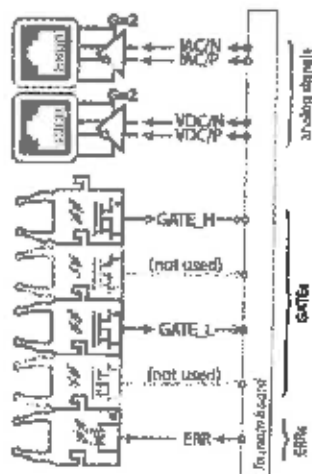

Fig. 1. Functional view of the optical mezzanine.
- The **optical** mezzanine (Fig. 1) is meant to provide basic input/output support, featuring optical inputs and analog outputs. Additionally, the error signal is also relayed to the master controller.